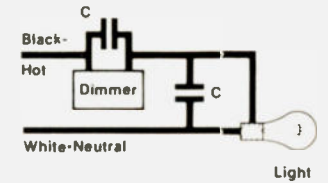

Fig. 10. C = .001 uF, disc ceramic.
6. Dimmer switches that utilize an scr or triac can produce tremendous interference which is very difficult to eliminate. This is due to the approximate square wave output that is produced by the switching at the scr or triac. However, bypassing in a manner shown in Fig. 10 may be helpful.